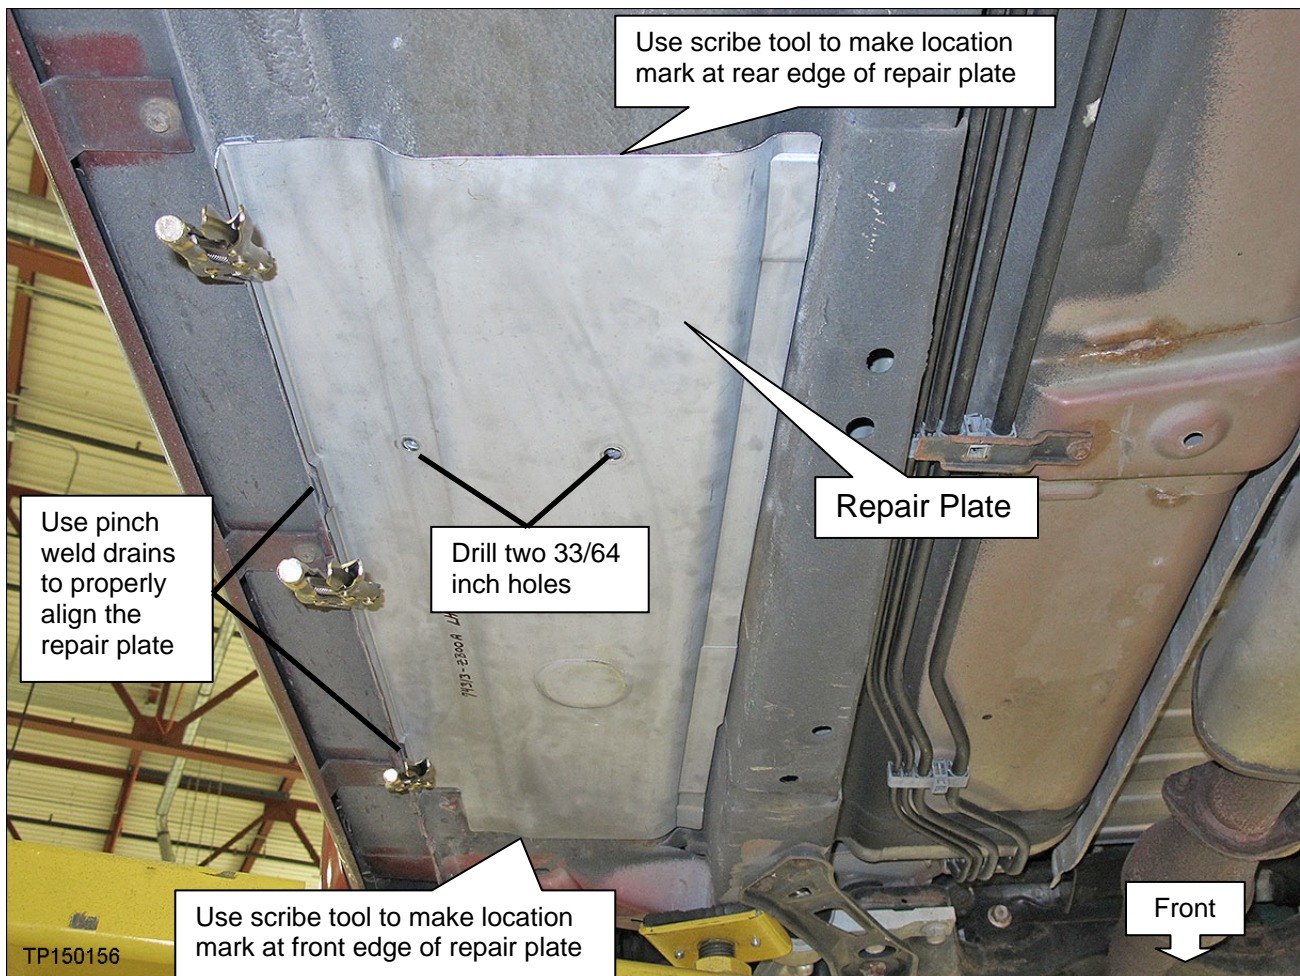

Figure 2
3. Place the Repair Plate against the floor pan and align the contour of the outer edge of the Repair Plate with the pinch weld drains (see Figure 2).
4. Use locking pliers on the pinch welds to hold the Repair Plate in place (see Figure 2).
5. Use a scribe tool to make “location marks” at the front and rear edges of the Repair Plate (see Figure 2).
6. Drill two holes in the floor pan (see Figure 2).